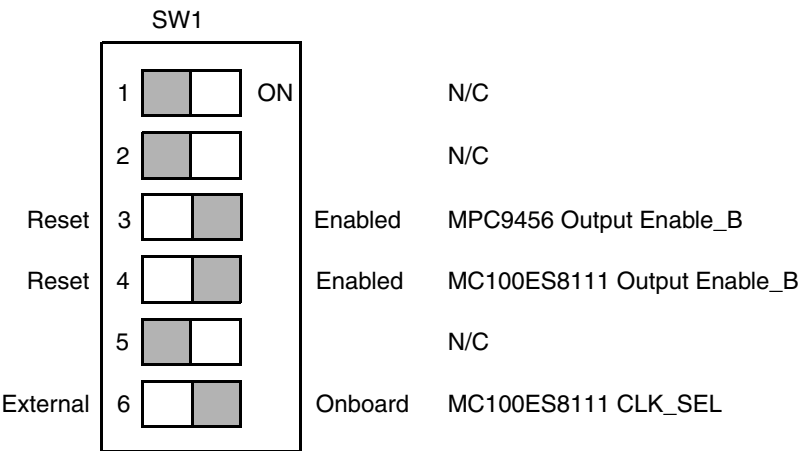
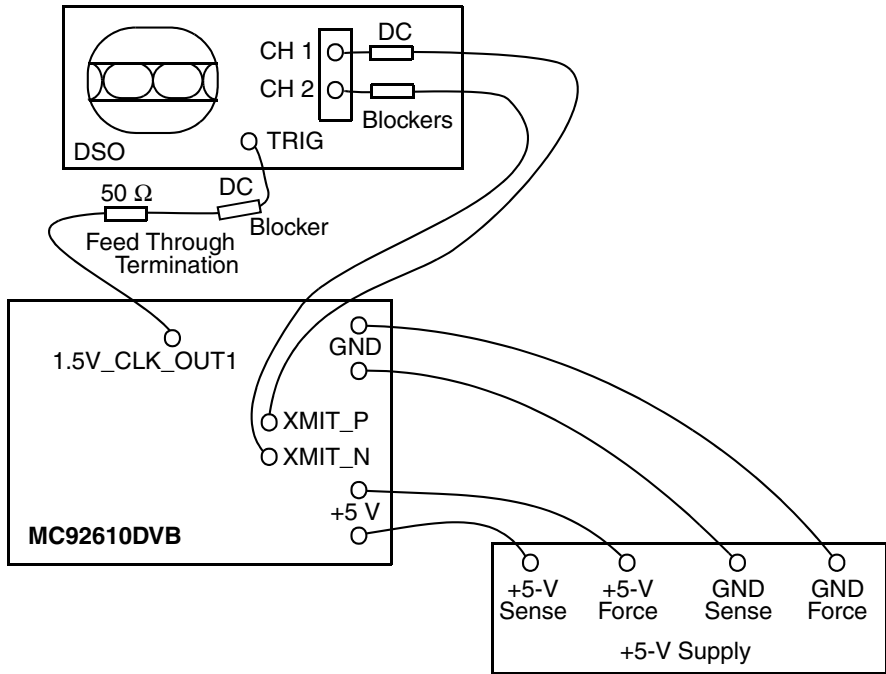

Figure 2-3. Switch Settings for Using the Onboard Oscillator
Figure 3-1. Data-Eye Observation Setup
Figure 2-3 depicts the switch settings for using an onboard oscillator with all of the clock buffer outputs enabled.
The MC92610DVB and test equipment should be connected as shown in Figure 3-1. Configure clock circuits with SW1 as shown in Figure 2-3.
1. Connect the MC92610DVB and test equipment as described in Figure 3-1. and Table 3-4. This will place the MC92610 in PN generation mode with the MC92610 in reset.